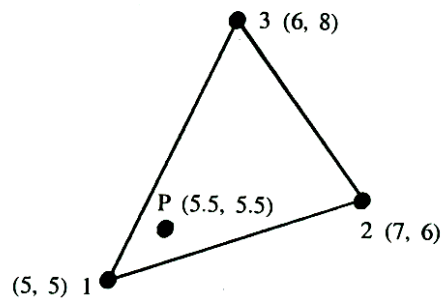

Fig.2
- 1B. For the three noded triangular plate element shown in Fig.2, compute the temperature at the point P, given the nodal temperatures are $T_1 = 120^\circ\text{C}$, $T_2 = 170^\circ\text{C}$ and $T_3 = 225^\circ\text{C}$.